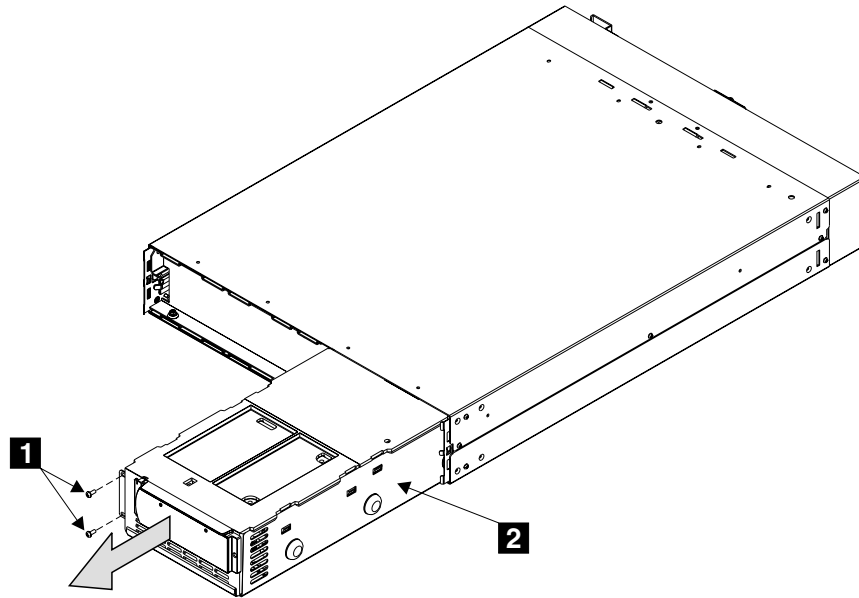

Figure 105. Removing the uninterruptible power supply electronics assembly
3. Remove the two screws **1** (see Figure 105).